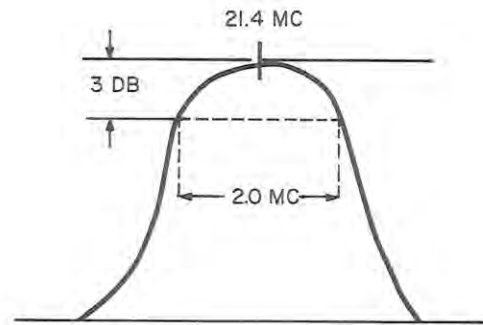

Figure 5-10. 60-21.4 Mc Converter Response Waveform at J3 Output.
- p. Adjust L5 and L6 for maximum response centered around the marker. Refer to Figure 5-10.
- (3) **ISA-201-1 Isolation Amplifier:** The amplifier used to provide isolation between the local oscillator and the LO OUTPUT jack on the front panel of the tuning unit is broadly tuned and will not require alignment in the field. The module provides a loss of about 4.0 db over the tuning range of the local oscillator and effectively isolates the oscillator from variations in load impedance. Perform the tests outlined in Table 5-5 of the minimum performance standards. When the unit does not meet the minimum standards, the difficulty is likely to be a defective component and not alignment.